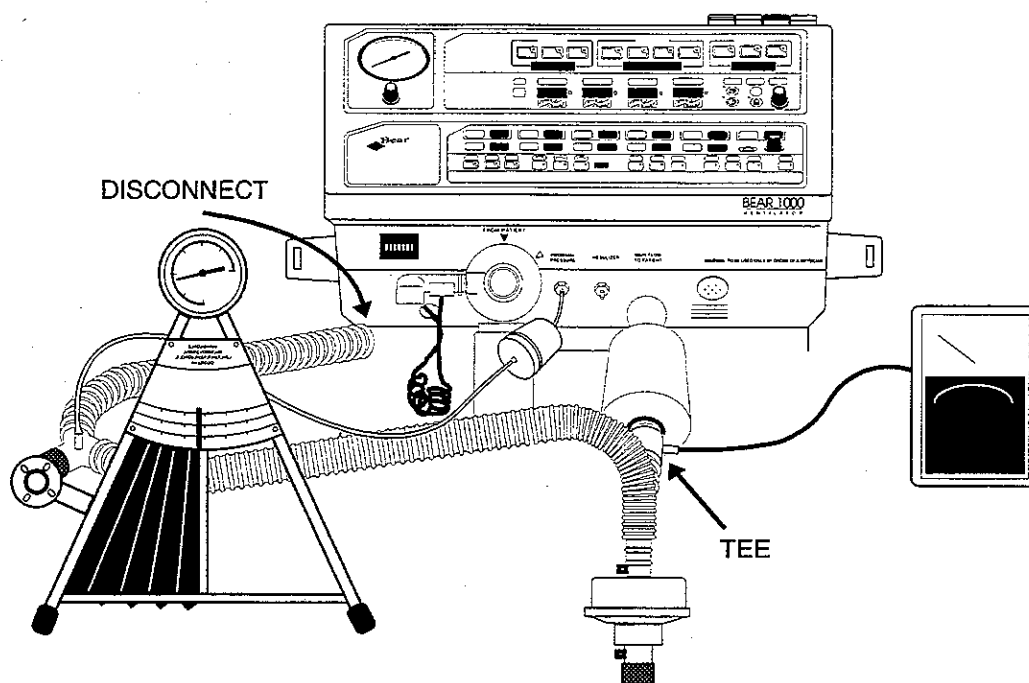

Figure 3-6
4. Connect an oxygen analyzer in line with the patient circuit as shown in Figure 3-6.